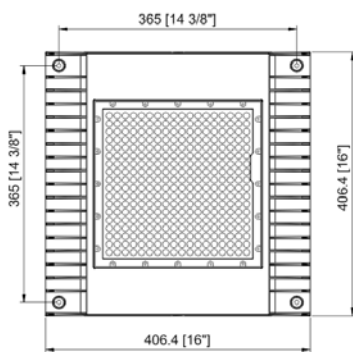

Fig. 4
1. Drill holes on the roof according to the dimensions on Fig. 4.
1. Remove the threaded adaptor from the back of fixture. Drill holes on the roof according to the dimensions on Fig. 4.